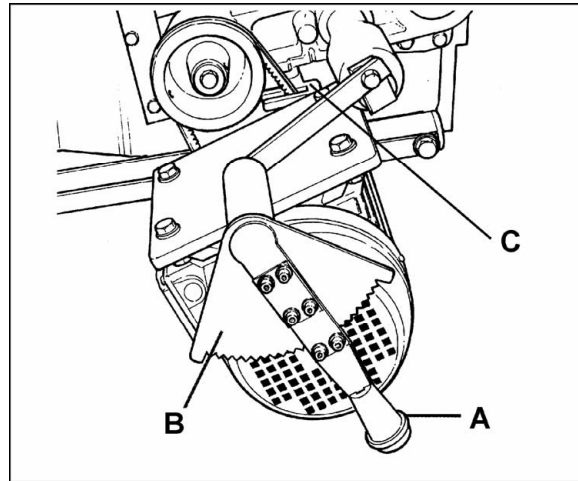

Figure 40
1. Pull and turn handle (A, Figure 40) to the left to loosen the belt. Slip the belt into the appropriate pulley groove. Check the indicator (C, Figure 40) for correct position.
3. Adjust the tension by pulling and turning handle (A, Figure 40) to the right, and engaging it into the serrated span sector (B, Figure 40).